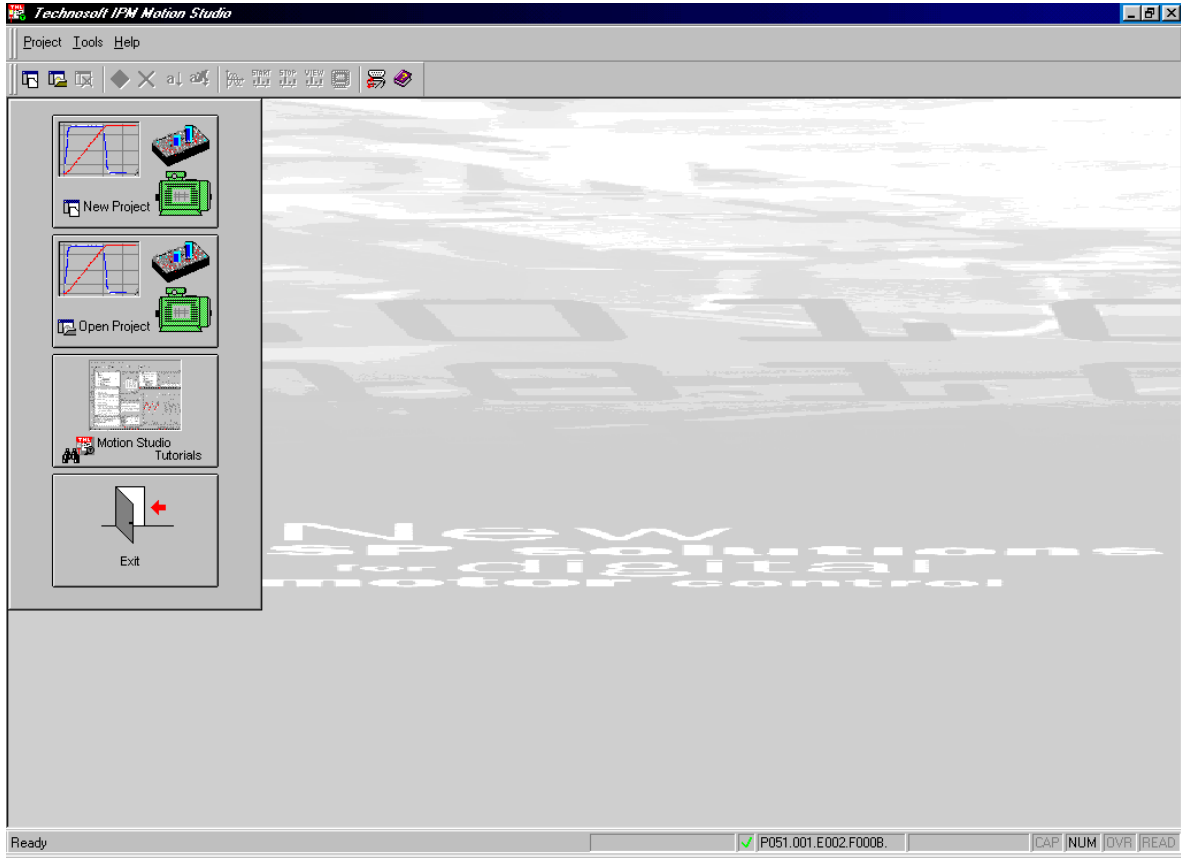

Figure 10. IPM Motion Studio opening screen
1. **Start the execution of IPM Motion Studio;** use the Windows “**Start | Programs | IPM Motion Studio | IPM Motion Studio**” menu command. A dialog as in Figure 10 should be displayed if the communication with the board is established and operates properly.